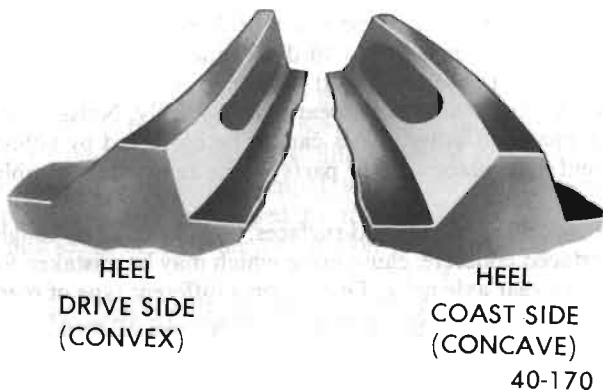

Figure 40-100 Gear Teeth Nomenclature
5. Observe pattern on ring gear teeth and compare with Figures 40-100 and 40-101.